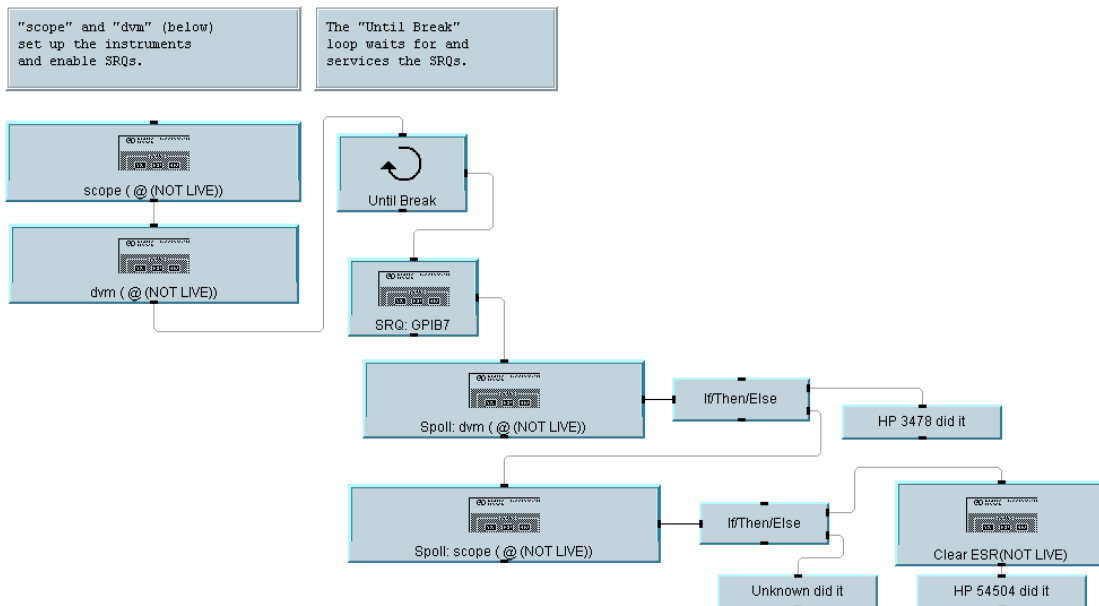

**Figure 5-9. Handling Service Requests**
**Example: Service Request.** The program in Figure 5-9 shows one way to handle service requests. In this example, it is possible that either `dvm` or `scope` is responsible for a service request. This program is saved in the file `manual116.vee` in the examples directory.
The program in Figure 5-9 will run only if the specified instruments are connected, configured, and powered up. However, you can use this program as an example of programming techniques to use in your own programs or you can modify the program to communicate with your own instruments.
Different instruments have different requirements for clearing and re-enabling service requests. In Figure 5-9, `dvm` requires only a serial poll to clear and re-enable its SRQ capability. However, `scope` requires the additional step of clearing the originating event register.